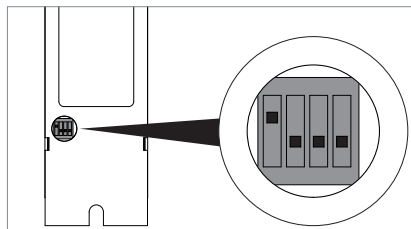

Fig. 24: DIP switch position for the Advanced Single Control function.
- ▶ Set the DIP switch no. 1 to the "ON" position, see Fig. 24.